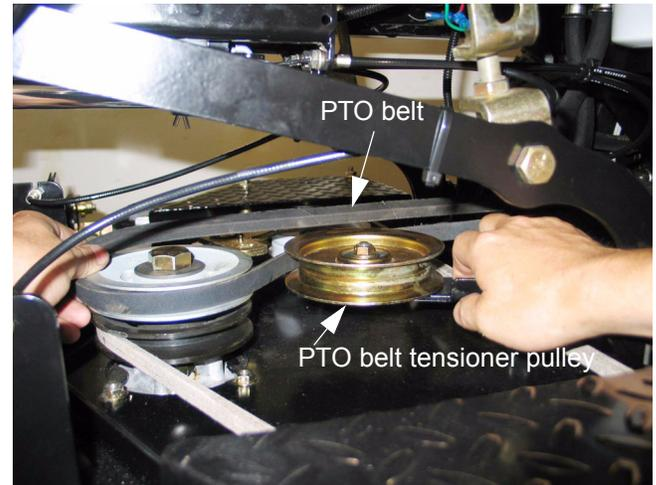

Figure 3.5
- 3.5. Working from the left side of the mower, relieve tension from the belt tensioner pulley, and roll the belt off of the pulley, allowing the tensioner pulley to slip beneath the belt. See Figure 3.5.